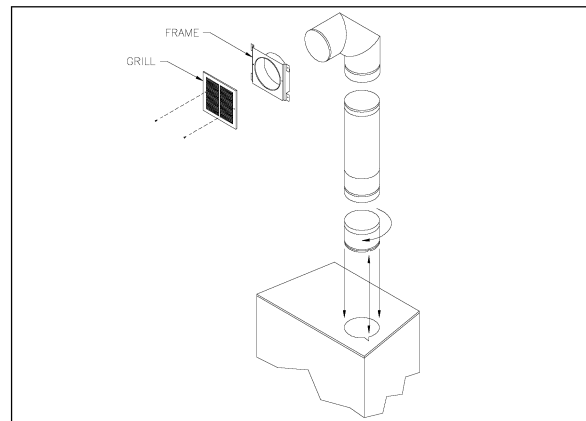

Figure 15
2. *Double hot air outlet including: (See Fig.15)*